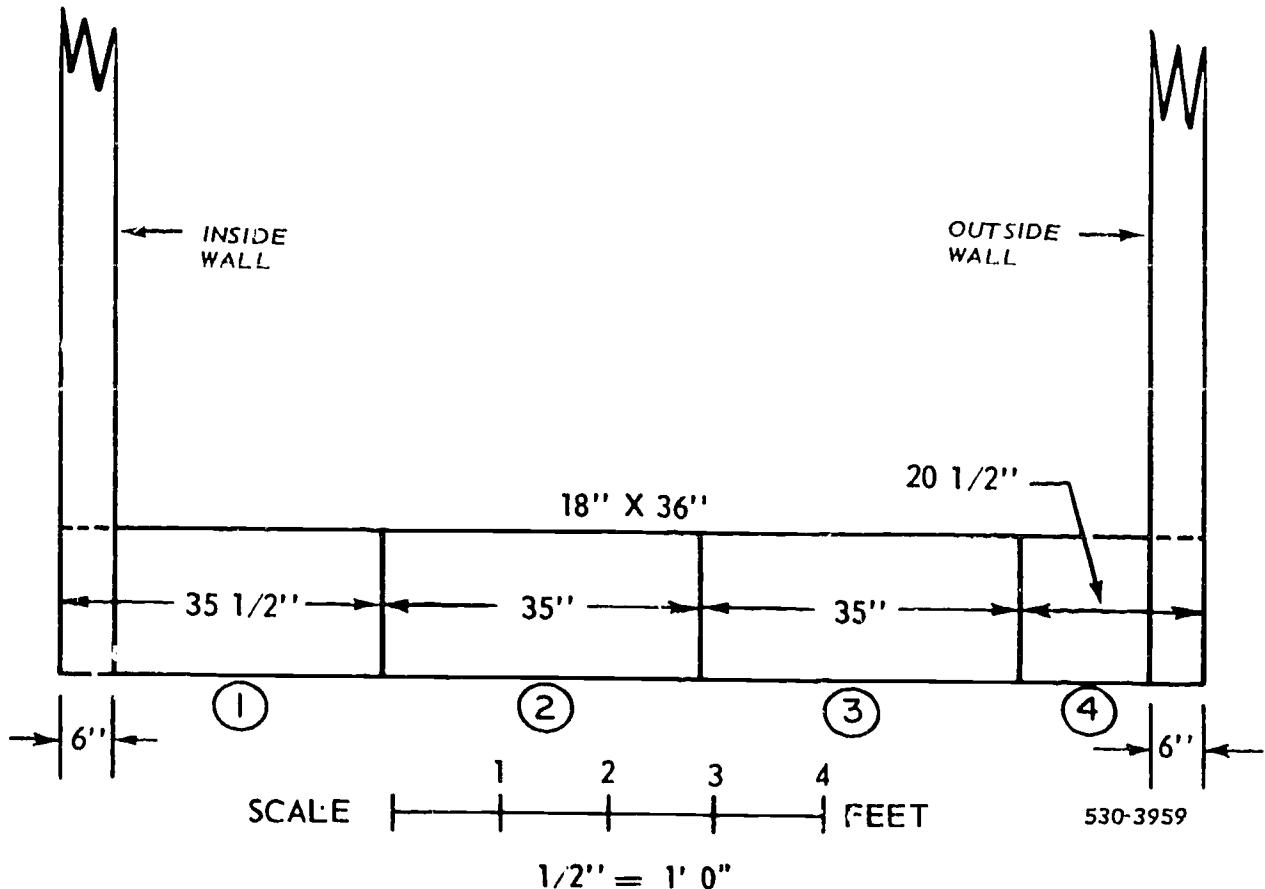

Figure 4-11. Breakdown of return air and outside air plenum.
**Return Air Duct.** In foldout 2, you can see an elevation view of the return air duct (return air and outside air plenum) to the heating and air-conditioning system we have been discussing. Earlier in the chapter, we broke down the return air duct and found the dimensions to be 18 inches high, 36 inches wide, and 9 feet 6 inches long. In figure 4-11 we have further broken the duct down into joints. Notice that joint 4 is located to contain the multiblade damper. Determining the size and number of sheets for this duct is similar to determining the material for the other rectangular ducts except that these dimensions are large enough to take nearly a whole  $3' \times 10'$  sheet for each joint. The stretchout including the Pittsburg seam allowance is  $109\frac{1}{4}$  inches. The ends of joints 1 and 4, shown in figure 4-11, are plain and do not have flanges because the duct openings through the walls will be boxed in (framed) by the carpenters. The hall register and the outside wall louver will be fastened to the wood framing. The joints are connected with S-and-drive slips between each joint.